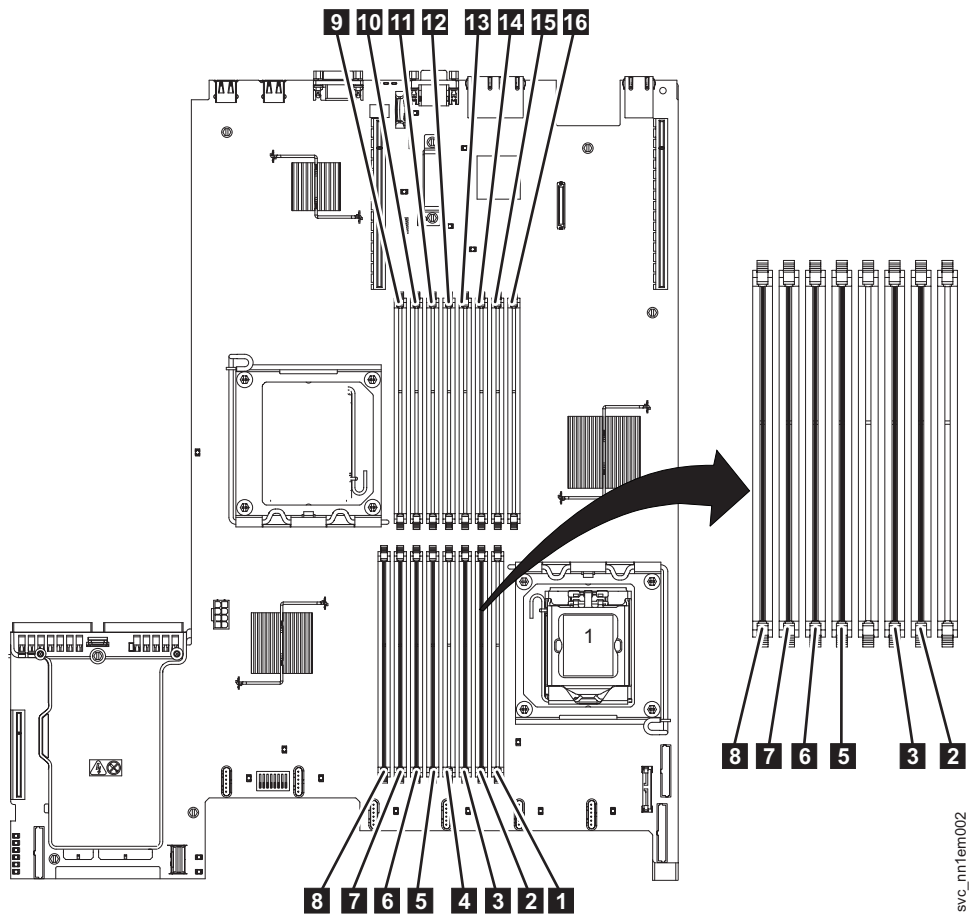

Figure 95. Locating the SAN Volume Controller 2145-CF8 memory modules
- SAN Volume Controller 2145-CF8: The SAN Volume Controller 2145-CF8 node uses six modules in DIMM slots **2**, **3**, **5**, **6**, **7**, and **8**, as shown in Figure 95 on page 95.